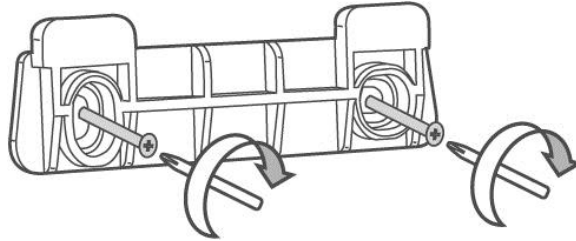

Figure 1: Attach the Screw Bracket to a Flat surface.
2. Locate the screw bracket on a flat surface and mark the two holes (see Figure 1).
3. Drill the two marked holes and install the bracket with two screws (see Figure 1).